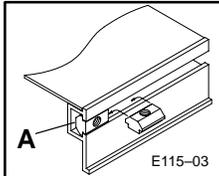

Figure 3: Drop-in T-bar Installation Detail
- a. Insert the two Single Drop-in T-bars into conveyor T-slot by rolling each one into position (Figure 3).
- b. Insert the two Single Drop-in T-bars into conveyor T-slot by rolling each one into position (Figure 3).
- a. For an aluminum Leg, select desired location and insert the two Single Drop-in T-bars into Leg channel by rolling each of them into position (see Figure 3).